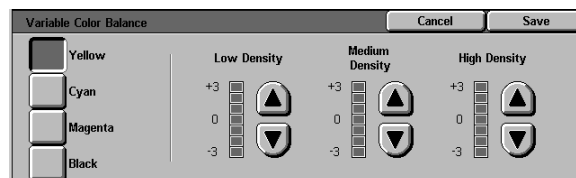

Figure 42: Color Balance screen
- 1 Touch the **Variable Color Balance** icon on the Image Quality tab to display the Color Balance screen, as illustrated in Figure 42.